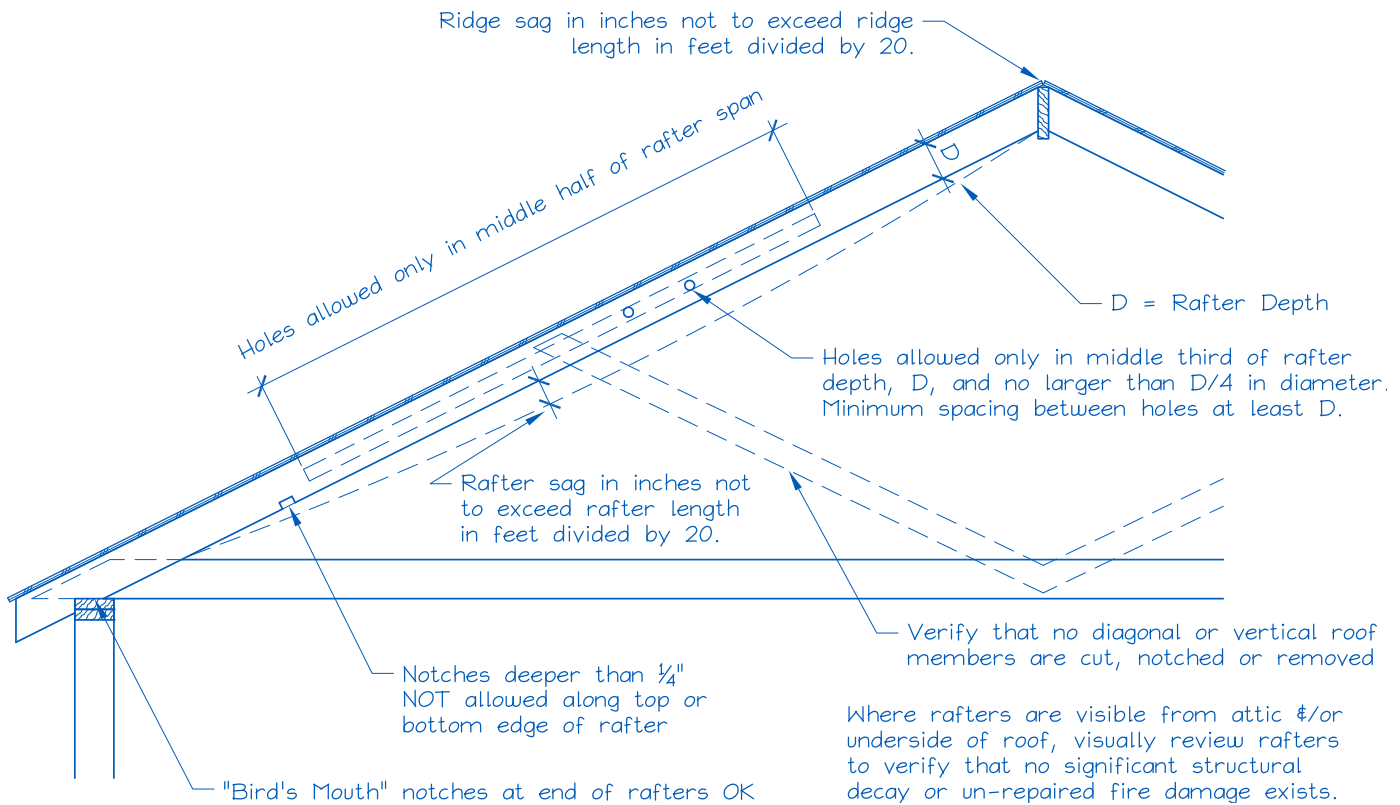

Figure 2. Sample Solar Panel Array and Anchor Layout Diagram (Roof Plan).
E. Is a roof plan of the module and anchor layout attached? (see Figure 2)
- 1) Proposed anchor horizontal spacing (see Figure 2): _____' - _____"ft-in
1. Anchors are also known as "stand-offs", "feet", "mounts" or "points of attachment". Horizontal anchor spacing is also known as "cross-slope" or "east-west" anchor spacing (see Figure 2).